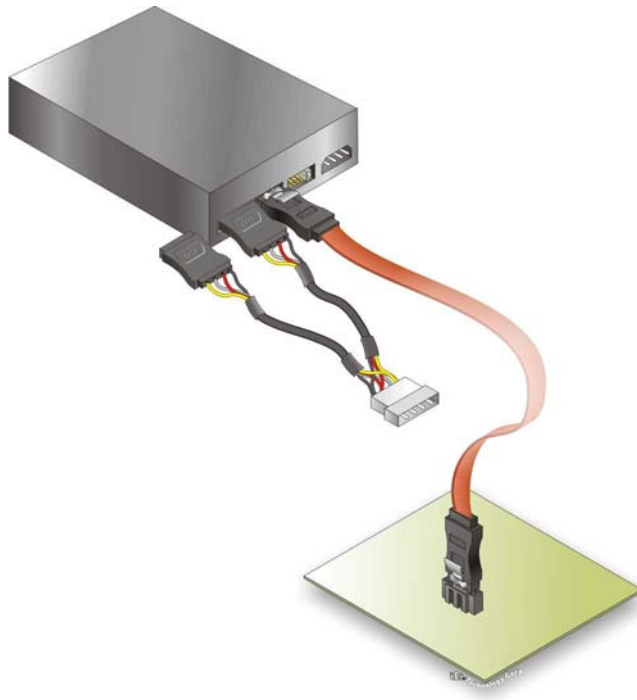

Figure 4-11: SATA Power Drive Connection
- Step 3:** **Connect the cable to the SATA disk.** Connect the connector on the other end of the cable to the connector at the back of the SATA drive. See **Figure 4-11**.
- Step 4:** **Connect the SATA power cable.** Connect the SATA power connector to the back of the SATA drive. See **Figure 4-11**.